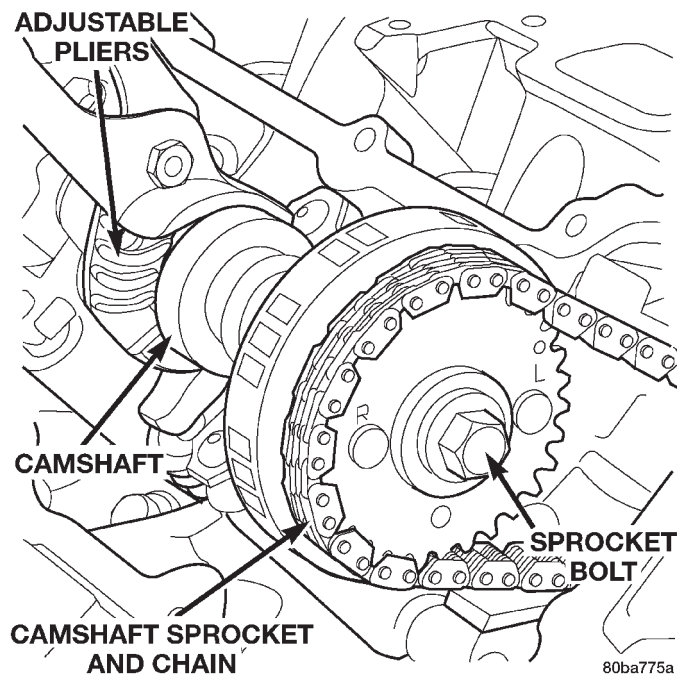

Fig. 85 Camshaft Sprocket and Chain
- (7) Hold the camshaft with adjustable pliers while removing the camshaft sprocket bolt and sprocket (Fig. 85).
- (8) Using the pliers, gently allow the camshaft to rotate 45° until the camshaft is in the neutral position (no valve load).
- (9) Starting at the outside working inward, loosen the camshaft bearing cap retaining bolts 1/2 turn at a time. Repeat until all load is off the bearing caps.